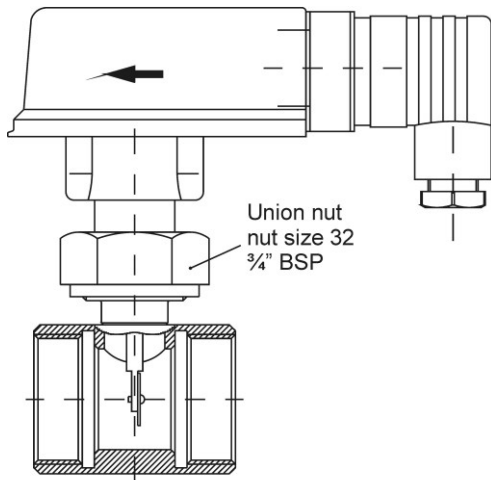

Fig. 5
- ↪ Flow switches optionally equipped with a copper tube section (Fig. 5) have to be soldered to the pipe. The flow switch (body with paddle system) and the O-ring have to be disassembled from the tube section when soldering to prevent overheating.